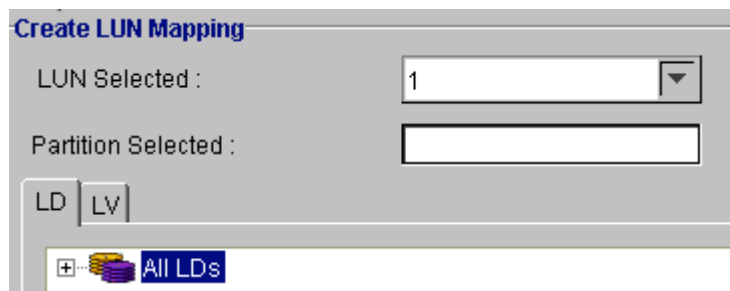
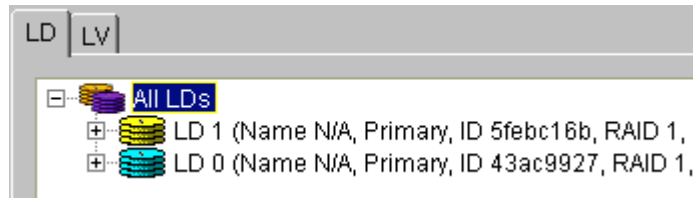

Figure 9-12: Create LUN Mapping
Figure 9-13: LD List
Step 4. The *Create LUN Mapping* window should appear in the content panel (see *Figure 9-12*). If you want to map a logical drive then select the **LD** tab shown in *Figure 9-12*. If you want to map a logical volume, select the **LV** tab shown in *Figure 9-12*.
Step 5. List the available logical volumes or logical drives by clicking on the “All” icon in the respective window. For example, in *Figure 9-12* if the “All LD” icon is clicked, all available LDs will be shown (see *Figure 9-13*).